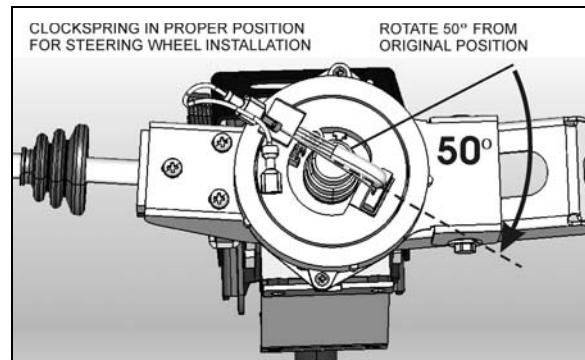

FIGURE 13: PROPER CLOCKSPRING POSITION
5. Break the paper seal and rotate the center part of the clockspring about 50° clockwise (Figure 13). This step is necessary for the installation of the steering wheel.